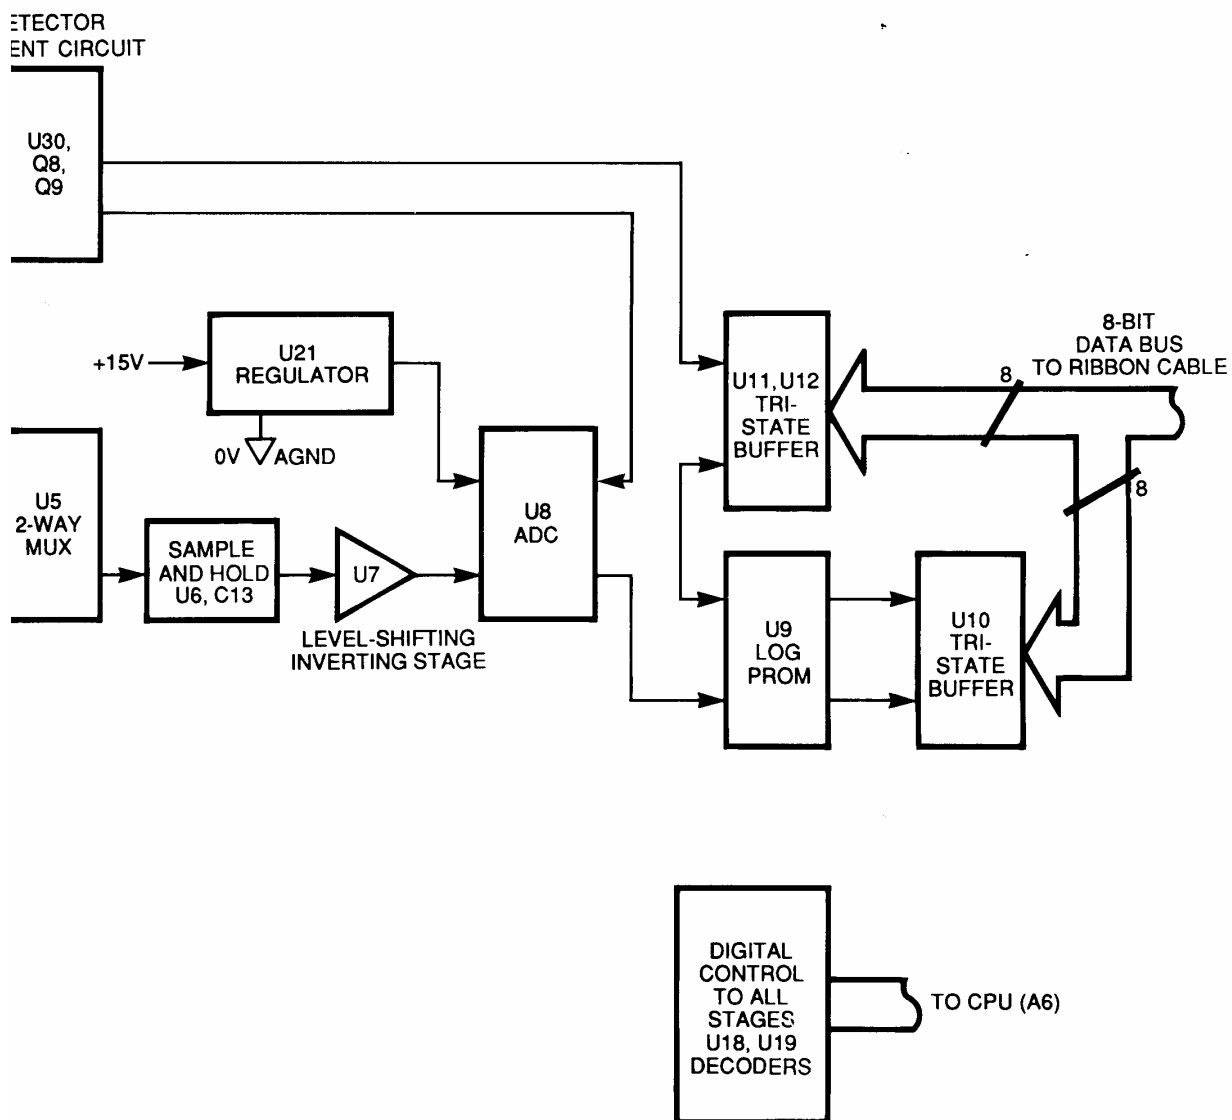

Figure 8-36. A3 Signal Channel Block Diagram
1. As linear data, in which case the 12 bit output of the ADC is read directly over the bus in two bytes via tri-state buffers U11 and U12 (Figure 8-36).